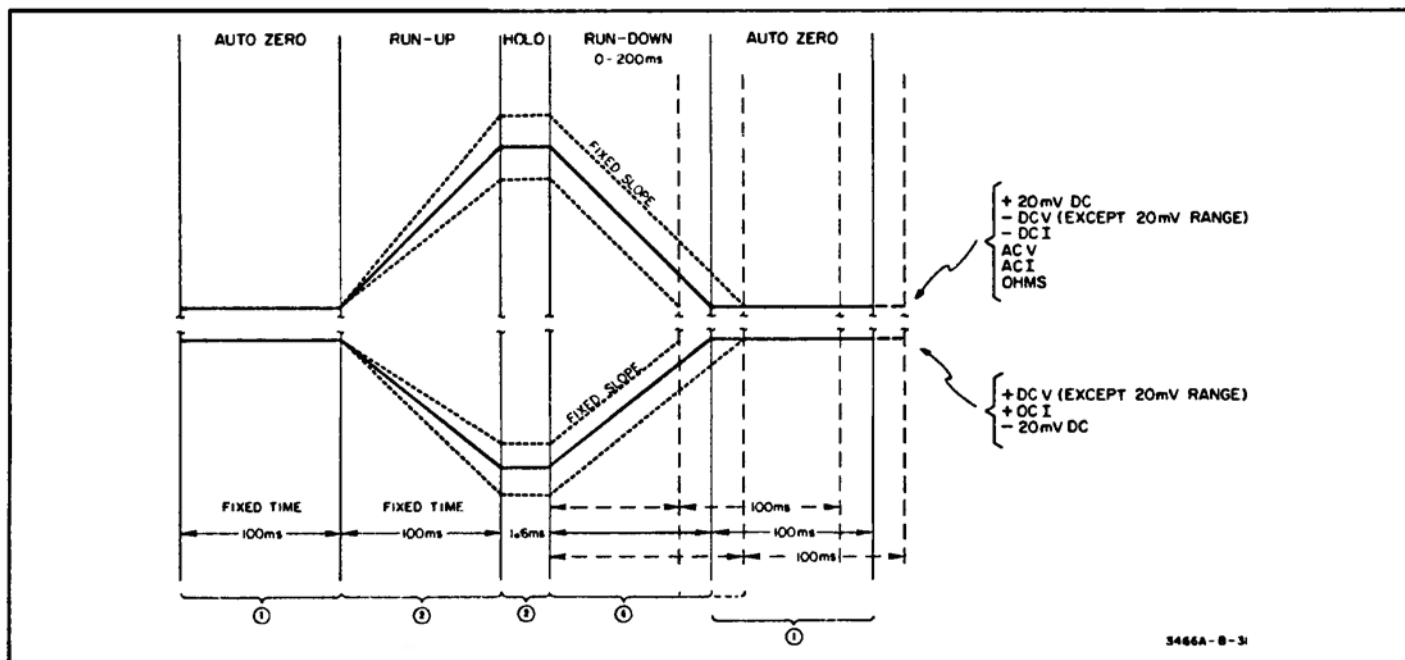

Figure 8-14. Integrator Output
8-61. There are four basic conditions ( ① ② ③ ④ ) for a complete measurement cycle as shown in Figure 8-14. These conditions exist for each of the seven Multimeter functions.
8-63. At the beginning of run-up ② a dc voltage proportional to the Multimeter input is applied across one of the run-up resistors (depending on the Multimeter function selected). This run-up voltage is integrated across  $C_{402}$ . The polarity of the Integrator output is opposite to the run-up voltage polarity. The run-up voltage polarity is dependent upon the Multimeter function and range selected. Figure 8-14 shows the Integrator output for three different input levels and the polarity for different functions and ranges.